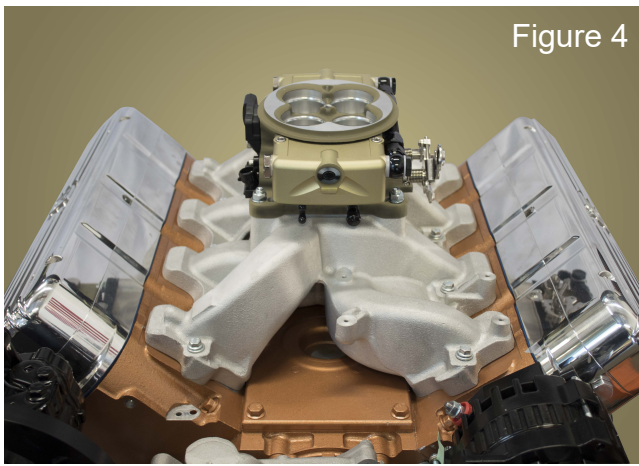

Figure 4
2. Install the original nuts and washers onto the four carburetor studs. See Figure 4.